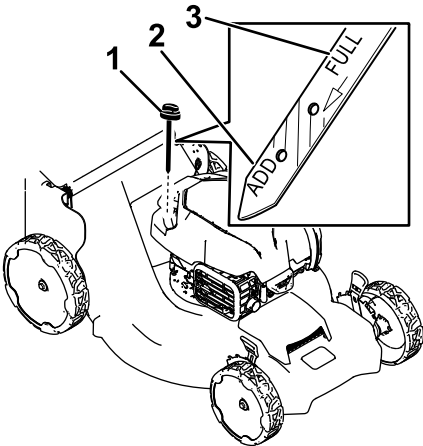

Figure 24
- 3. Remove the dipstick by rotating the cap counterclockwise and pulling it out (Figure 24).
- 4. Tip the machine onto its side (so that the air filter is up) to drain the used oil from the oil-fill tube (Figure 24).